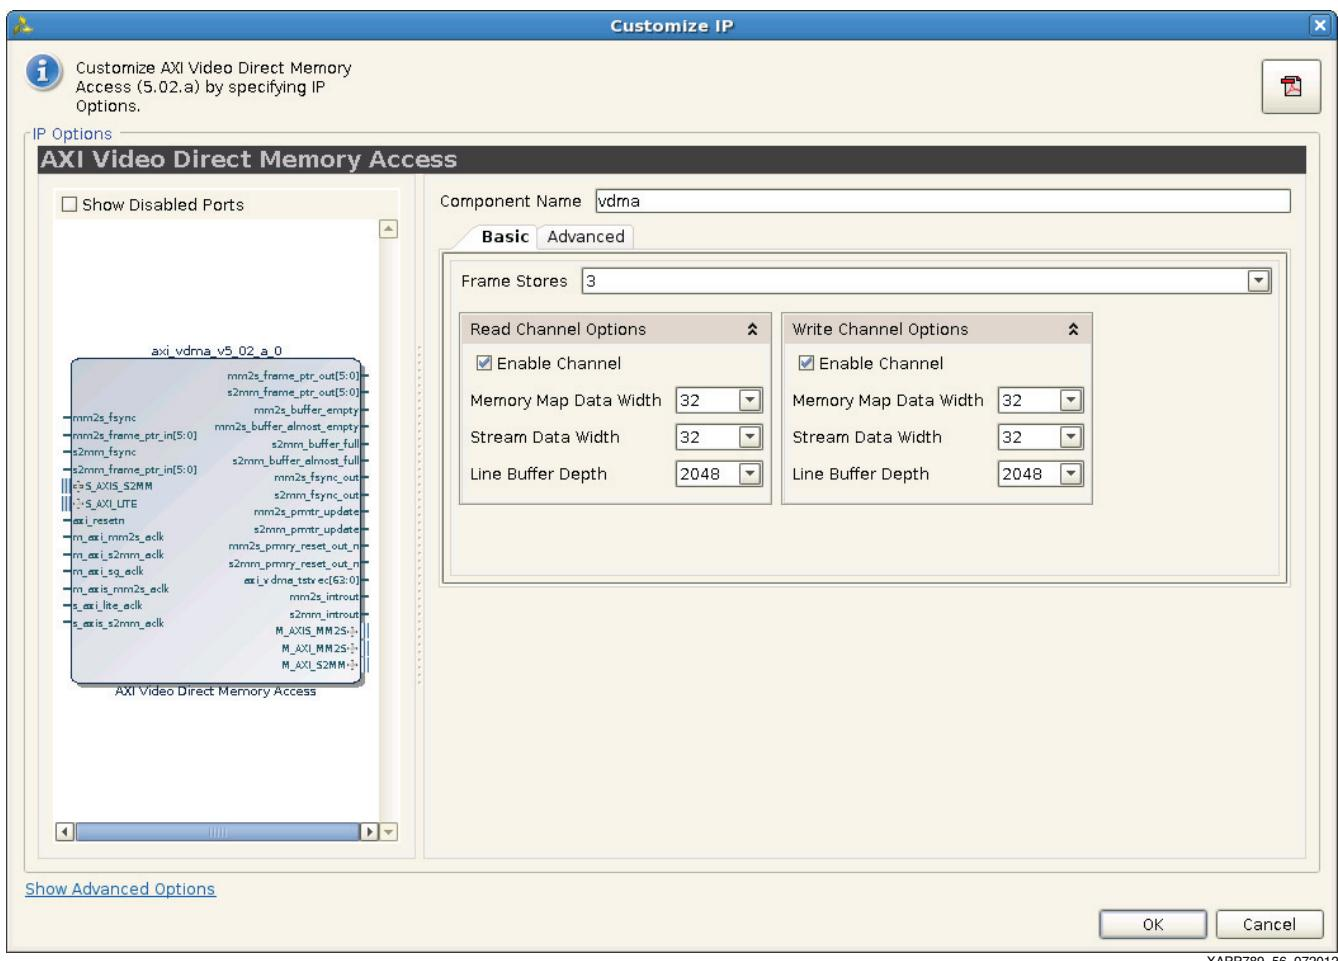

Figure 56: AXI VDMA Basic Settings
The VDMA is configured to act as a video frame buffer with settings to enable reasonable performance. Use these steps to configure the AXI VDMA (Figure 56).
49. Make the following settings in the VDMA Basic tab (Figure 56):